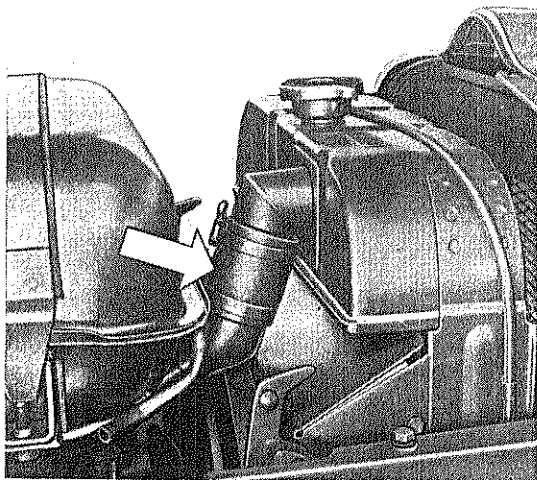

Fig. 8. - Thermostat location.
- thermostat faulty operation: remove thermostat (see fig. 8) and have it checked by skilled servicemen.